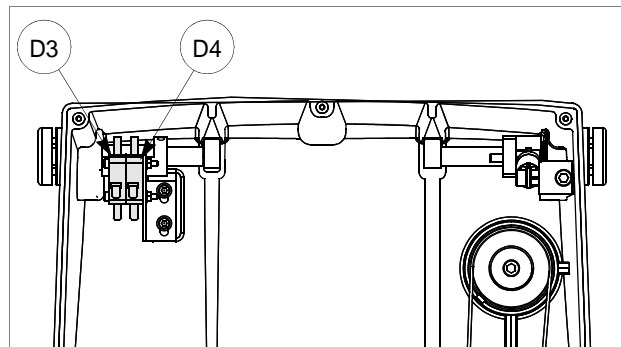

Fig. 41
cutter motor not working:	a) the closed protective shield is not making proper contact with the safety microswitch (fig. 41).
Protective shield is closed but the display reads "close shield"	a) the closed protective shield is not making proper contact with the microswitch (D3) (fig. 41)
b) cutter microswitch on protective cover triggered or disconnected (D4) (fig. 41).